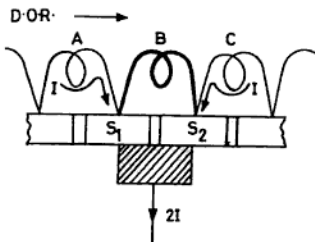

Fig. 7.37 On short circuit
**On Short Circuit** In Fig. 7.37 the brush is shown touching both the segments  $S_1$  and  $S_2$  and coil  $B$  is short-circuited. Therefore,  $I$  A of the left-hand side winding reaches the brush through coil  $A$  and segment  $S_1$  without